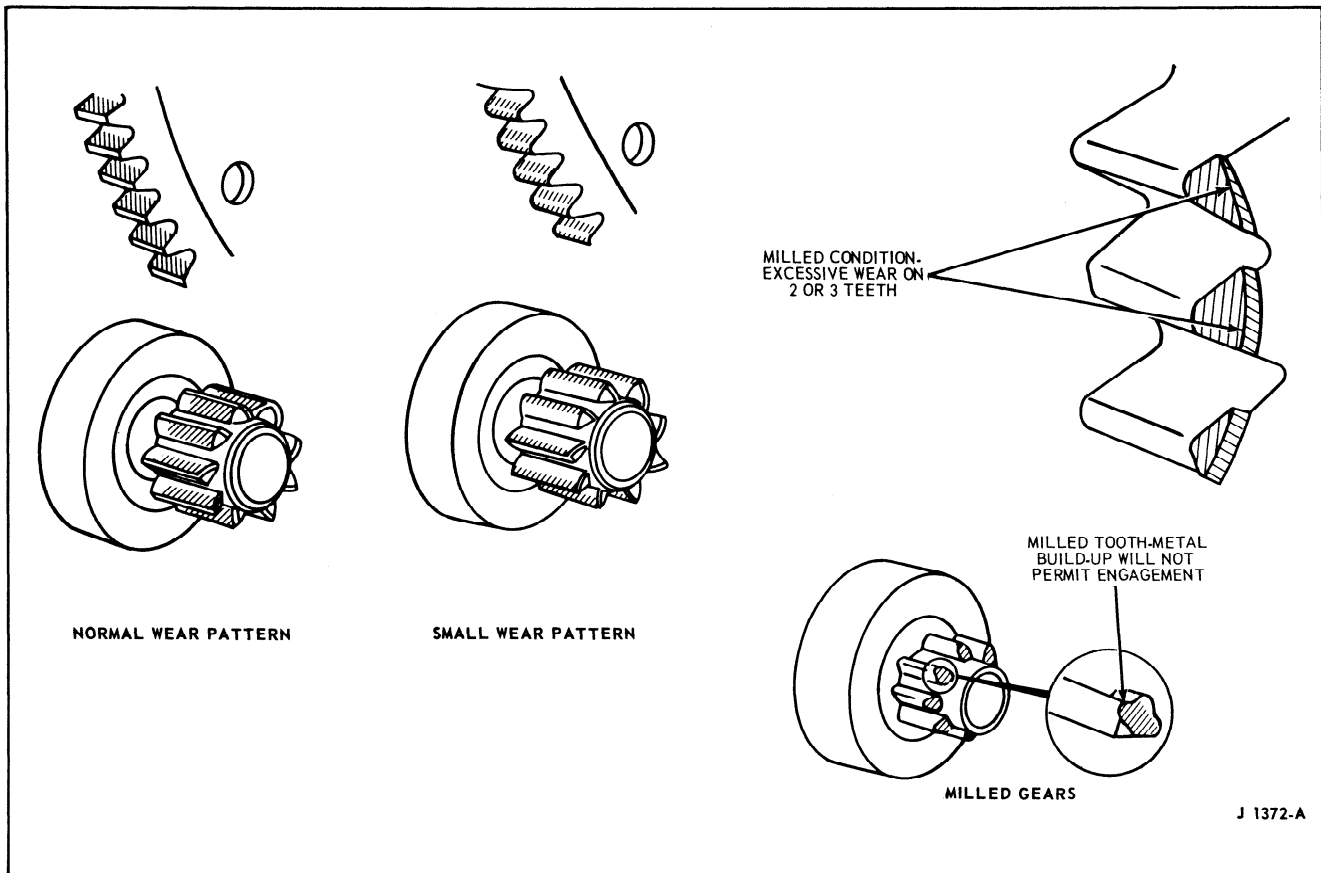

FIG. 9 Pinion and Ring Gear Wear Patterns
8. Examine the wear pattern on the starter drive teeth. The pinion teeth must penetrate to a depth greater than 1/2 the ring gear tooth depth (Figure 9, to eliminate premature ring gear and starter drive failure).
9. Replace starter drives and ring gears with milled, pitted or broken teeth or that show evidence of inadequate engagement (Figure 9).